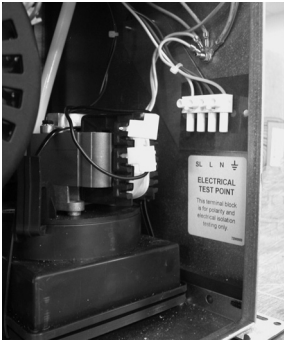
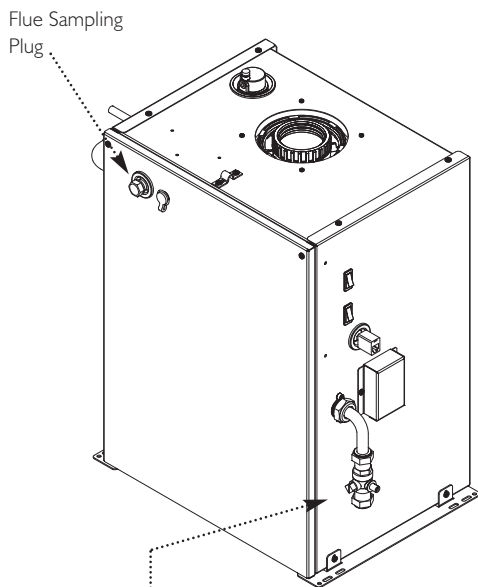

Fig. 40b
Fig. 41
3. Operate the Reset switch (Fig. 41) to activate the condensate pump and then repeat. This will empty most of the condensate from the sump. **9. Isolate the boiler from the electrical supply** (see Electrical Test Point, fig. 40b).